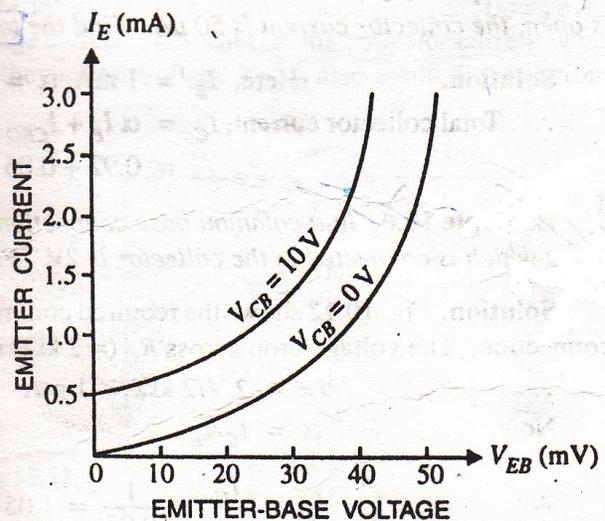

Fig. 10.14
**Input characteristic.** It is the curve between emitter current  $I_E$  and emitter-base voltage  $V_{EB}$  at constant collector-base voltage  $V_{CB}$ . The emitter current is generally taken along y-axis and emitter-base voltage along x-axis. Fig. 10.14 shows the input characteristics of a typical transistor in CB arrangement. The following points may be noted from these characteristics :